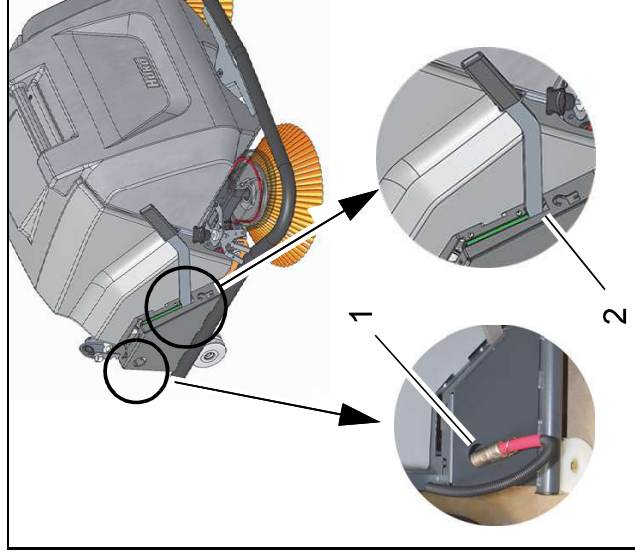

Fig. 5
1. Unplug the plug at the machine-side and plug into the retaining hole (Fig. 5/1).
2. Move the lever to the change/parking position (Fig. 5/2).